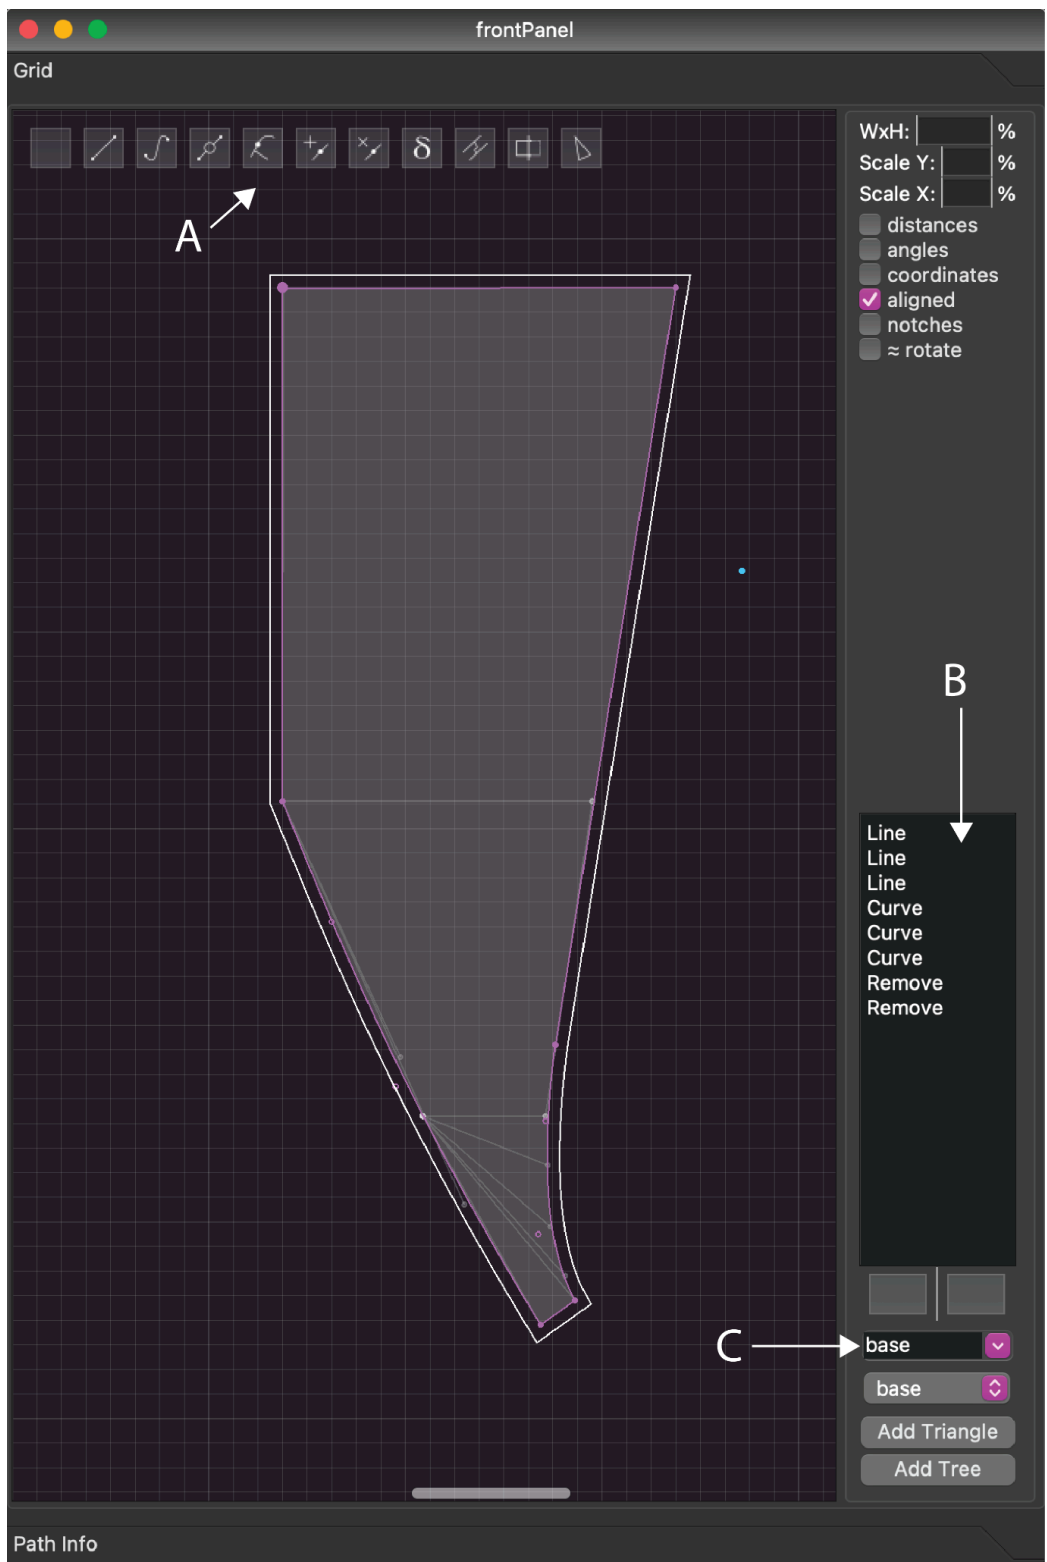

Figure 3. Component Window
The **Toolbar** (Figure 3 A) is at the top of the window, and is used to change the action done by the mouse. If you do not see it, press “T” on your keyboard. **Below are Toolbar actions:**
Line: used to create lines. Right clicking allows you to create a line based on height and width. This is especially useful for creating guidelines, as seen in Figure 3.
The history panel (Figure 3 B) shows all of the actions you have done to the path. Pressing "Command+Z" will undo your last input. Pressing "Command+Shift+Z" will redo your previous undo.
The layer textbox (Figure 3 C) allows you to select the current layer, and create new ones. To create a new layer, type the name within the textbox and press "Return/Enter."
3. In the grid menu on the right of the project window, select the layer textbox (Figure 3 C) and create a new layer with the word "tree" in it. If you do not see the grid menu at first, press "Y."